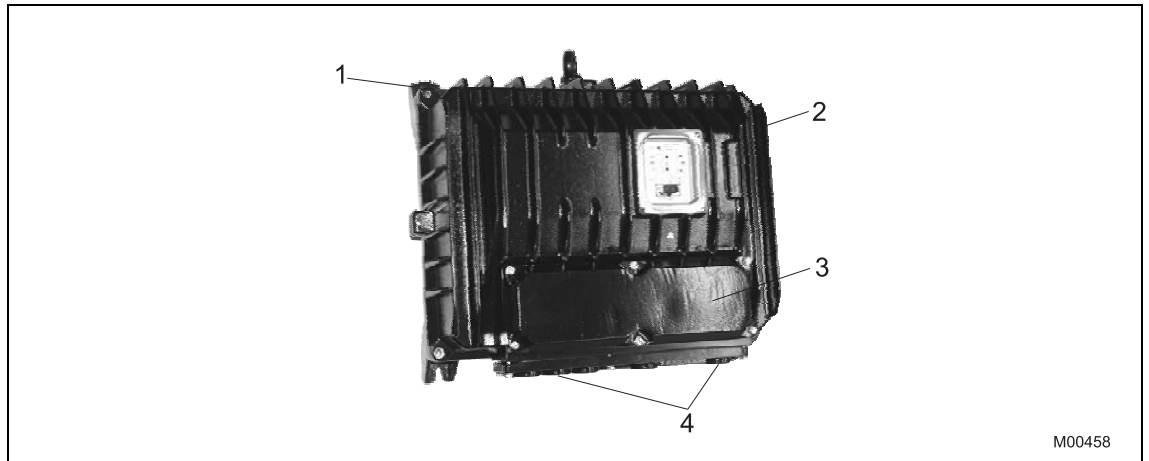

Fig. 9: EBS862
4. Remove the cover from the connection space (Fig. 9, item 3).